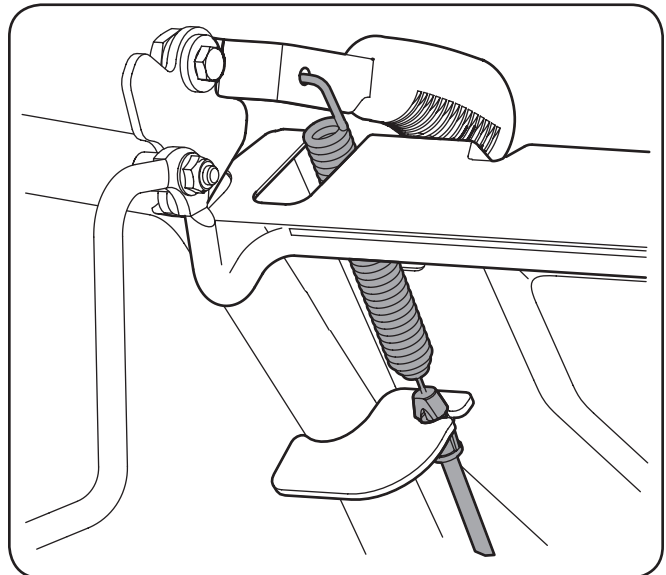

Figure 3-5
11. Route the tine engagement cable up the left handle, through the slot in the panel and hook it into the tine engagement handle. See Figure 3-5.
12. When the cable is properly hooked into the handle, snap it into the cable mount bracket as shown in Figure 3-5.